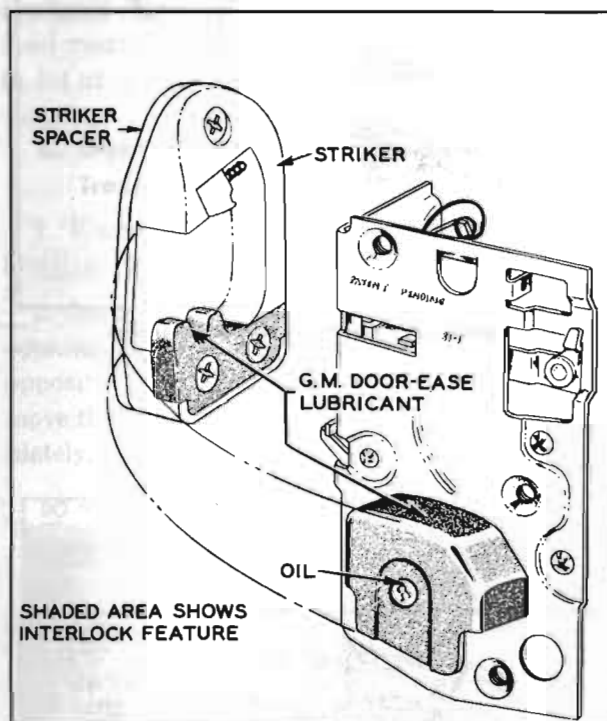

Figure 1-8—Door Lock and Striker
2. *Door locks and Strikers.* Remove dirt and old lubricant from door locks and strikers. Apply one or two drops of SAE 10 engine oil to lock roller pins, and apply a light coat of G.M. Door-Ease Lubricant to top surface of lock roller housings and to teeth in strikers. Wipe off excessive lubricant. See figure 1-8.